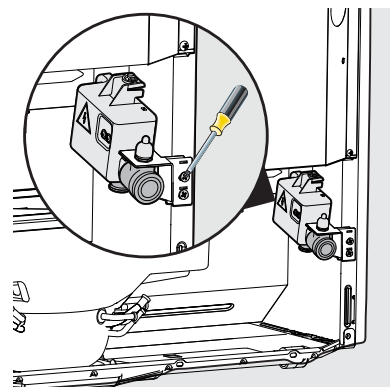

Figure 19
23. Attach the water valve bracket to the unit at the 2 pre-made holes using the 2 screws included in the kit. See Figure 19.